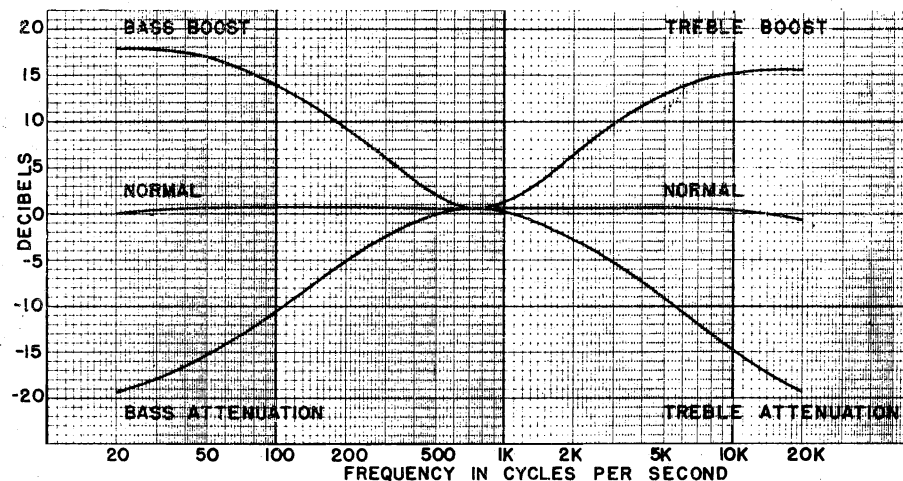

Fig. 2. Audio Characteristic
**AUDIO SYSTEM** - A cathode-follower Amplifier Output jack, furnishing up to 2 volts at less than 1/2 % distortion from 20 to 20,000 cps., ( refer to Figure 2 ) and the associated shielded audio cable have been provided to connect the C10 into new or existing audio systems. Any audio amplifier, such as the Craftsman 2 or 500 Amplifier,